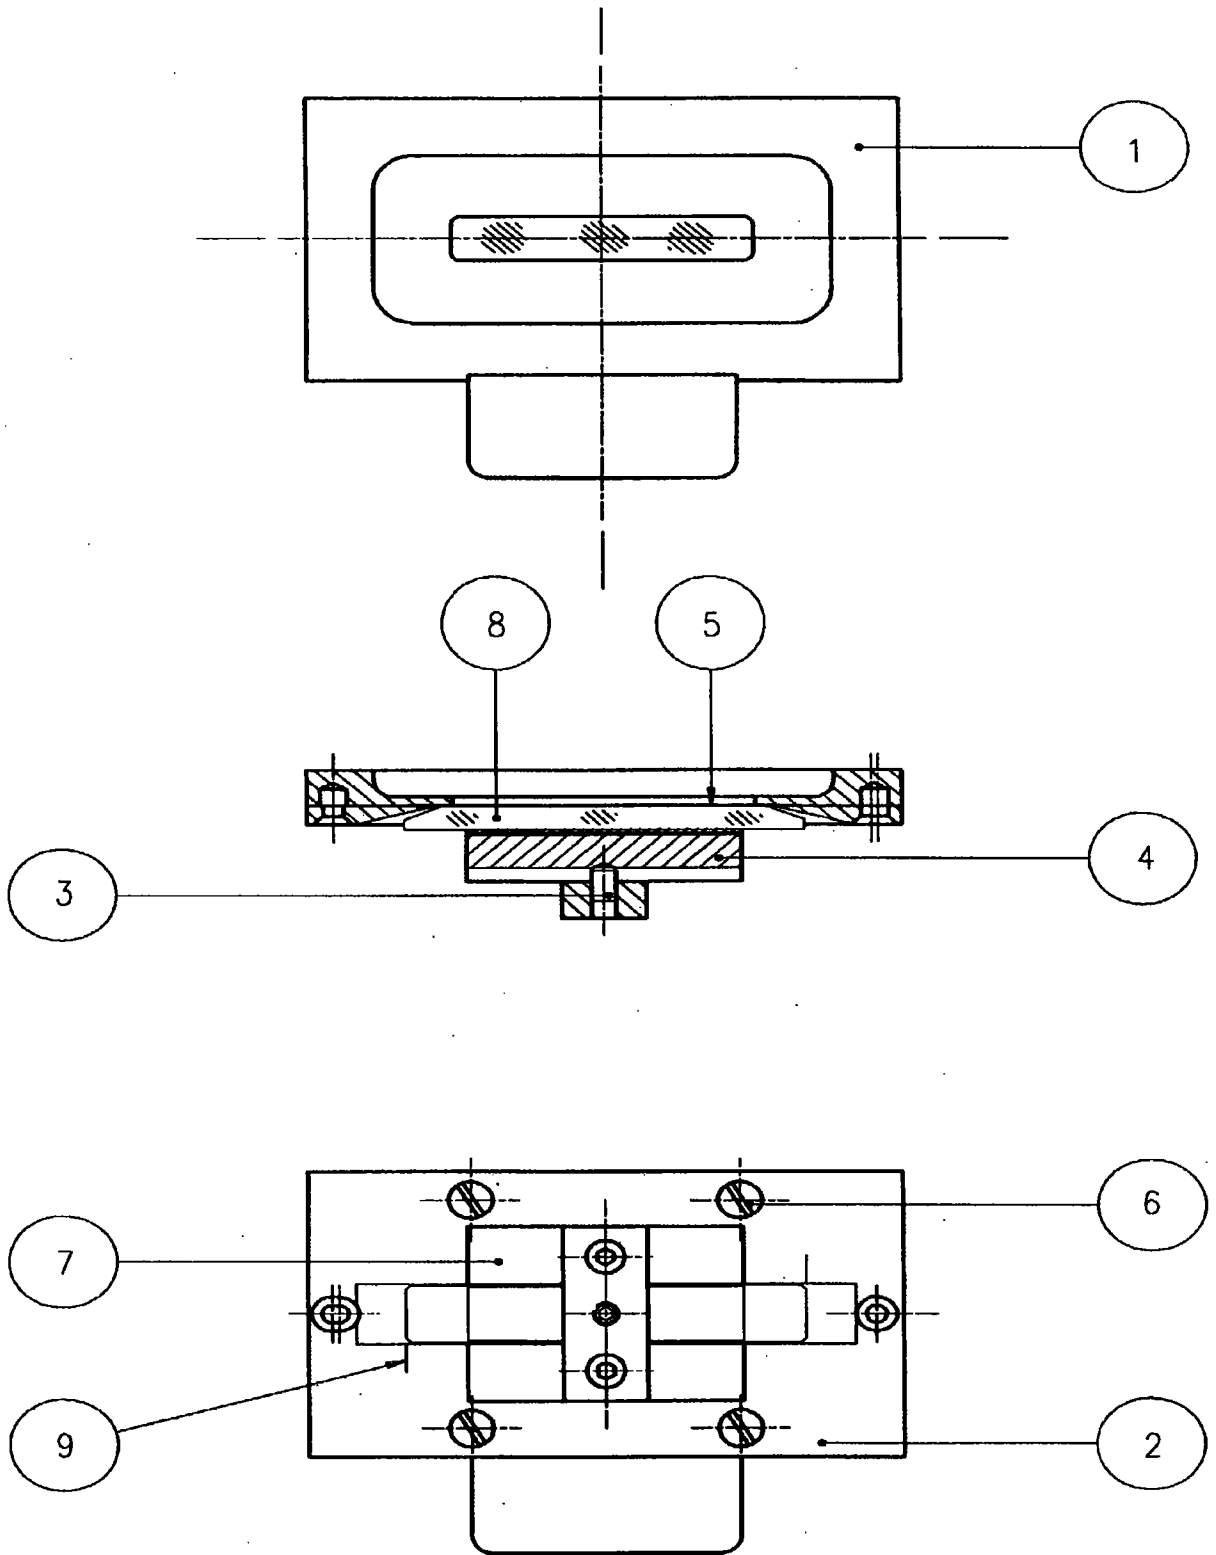
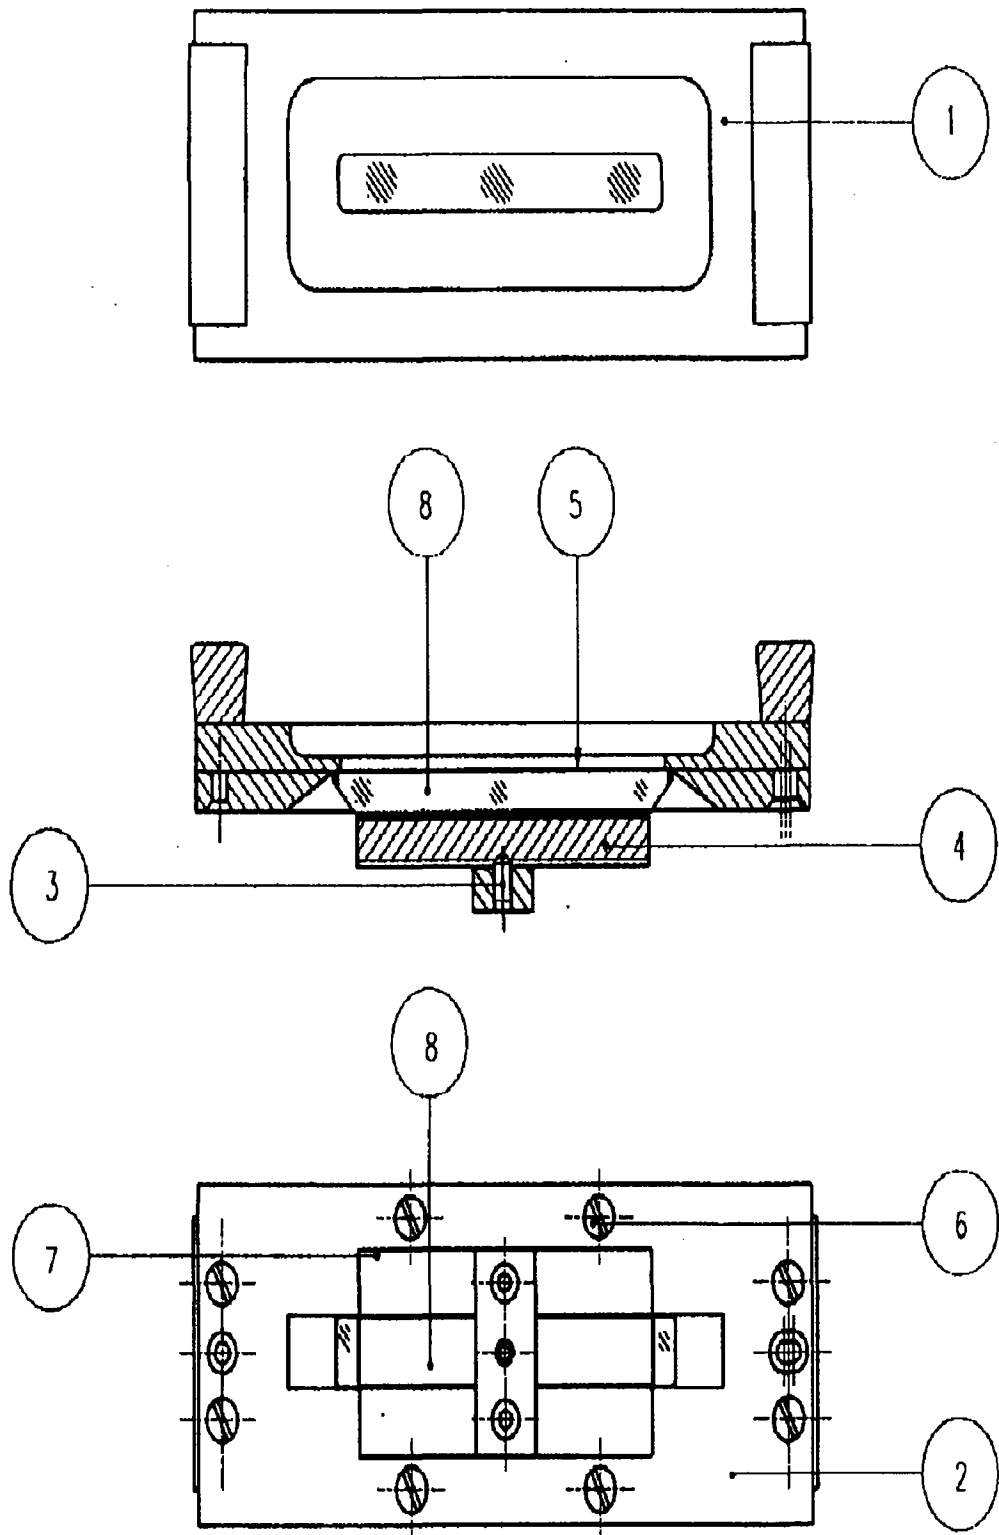

Fig.1: Trough top-plate of P/N 11050 ATR - crystal removal and replacement
Fig.2: Trough top plate of P/N 1110 and P/N 11160 seriesATR - crystal removal and replacement
- 1.1 Lay the top-plate on a clean flat soft tissue covered surface with the satin or polished chromium plated upper trough plate (1) on the bench (refer to Fig.1 or 2).
- 2.1 Firstly, remove the crystal as in Section 1 above. Then using a screw driver, remove the four screws (6) (Fig.1 or 2) which hold the chromium plated upper plate (1) and the lower black anodised plate (2) together.
- 3.2 Gently slide the crystal into the crystal cavity with the chamfered face downwards (see Fig.1 or 2) but remember your assembly is upside down). The direction of the crystal chamfer should be the same as the chamfer on the black anodised aluminium lower plate (2) for P/N 11050 series (Fig.1). For the P/N 11110 and P/N 11160 series (Fig.2) the direction of the crystal chamfer should be opposite to the chamfer on the black anodised aluminium lower plate (2) so that the two chamfers form a 'V' shape. The ends of the crystal should line up or be equi-distant from the engraved lines (9) to the left and right in the black anodised lower plate (2). This will ensure that the crystal is centrally positioned in the cavity. It is important to realise that if the crystal sits on the metal chamfer, breakage will occur during clamp down.
5.1 Fig.1 and 2 :- Trough Top-Plate Assemblies